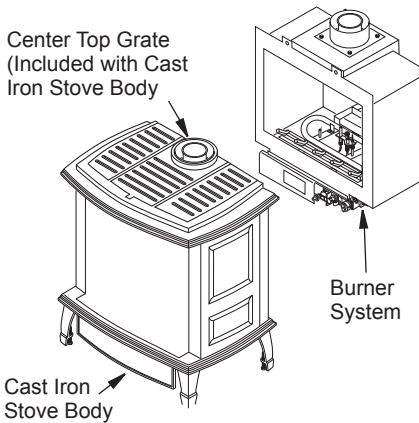

Figure 7 - Installing Burner System Into Cast Iron Stove Body
1. Carefully lift burner system and place into stove body from the rear of stove (Figure 7).